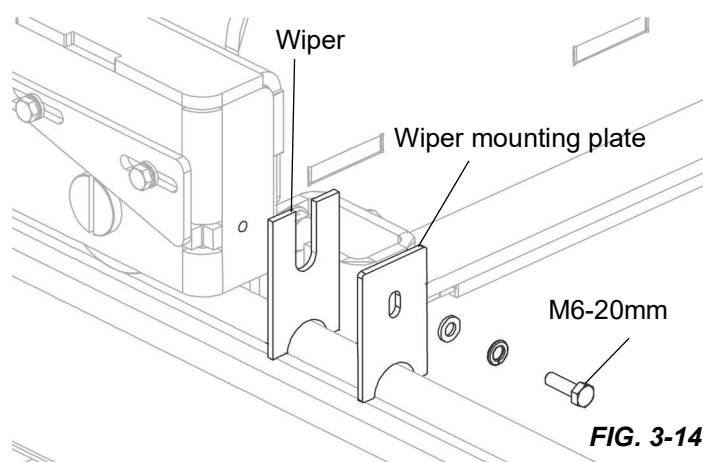

FIG. 3-14
6. Install all four the rail wipers on the mast rollers as shown in Figure 3-14.